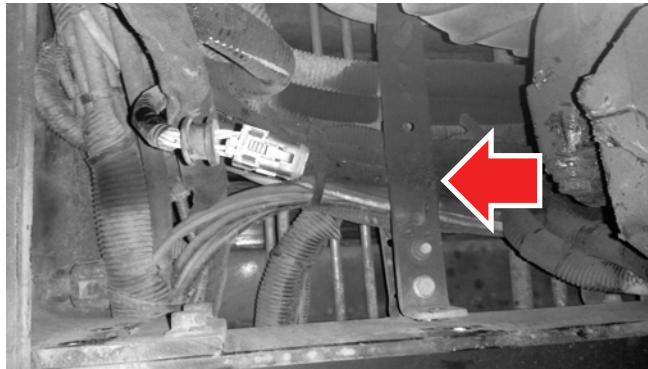

Figure 4, L-Bracket
7. Remove the L-bracket that is mounted flush with the top of the cross member and set aside for reinstallation (see Figure 4).